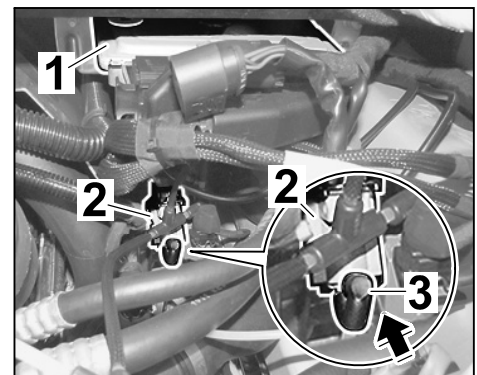

Figure 17
- 2.7.3 Fit connecting piece ⇒ *Figure 17-3-* on the standard change-over valve (flap control) ⇒ *Figure 17-arrow-*.